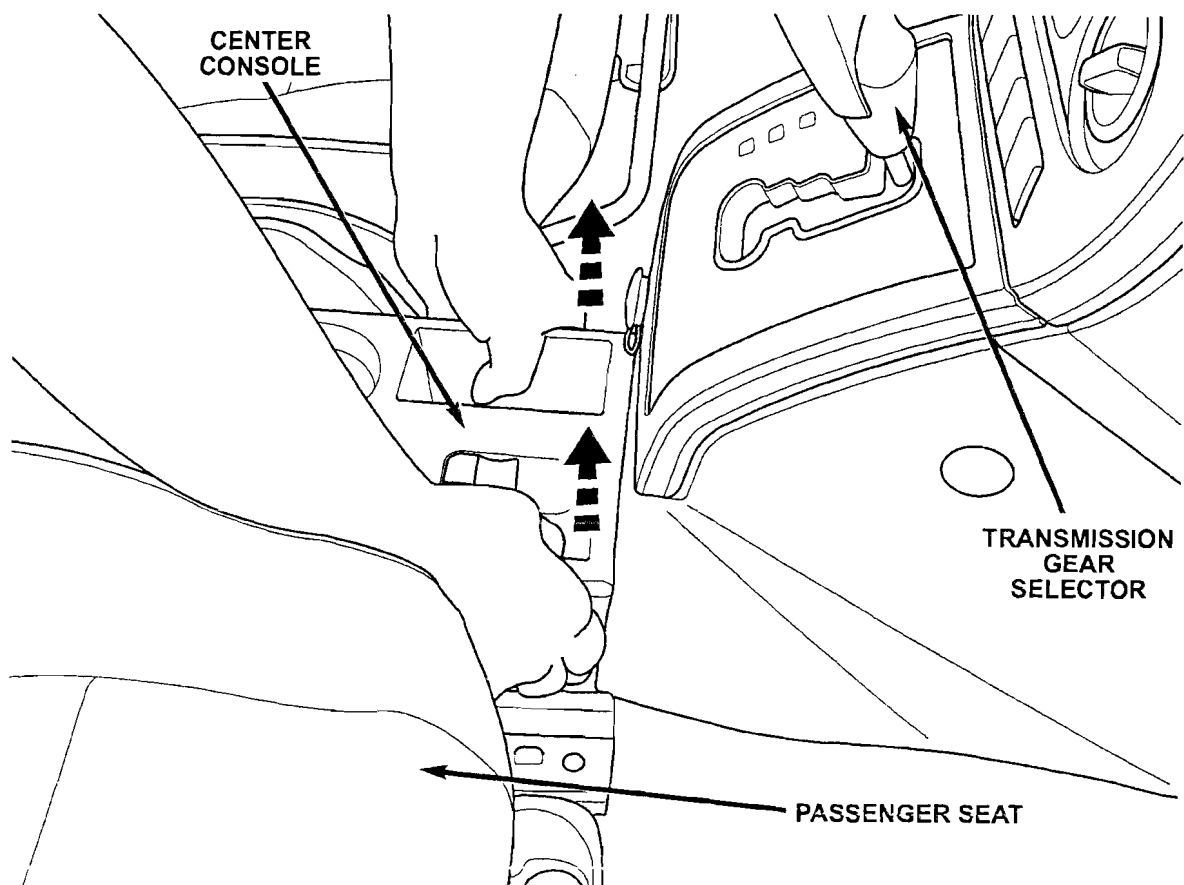

Figure 2
6. The front of the center console is held in place by two clips. Pull straight up on the front of the console to disengage the clips (Figure 2).